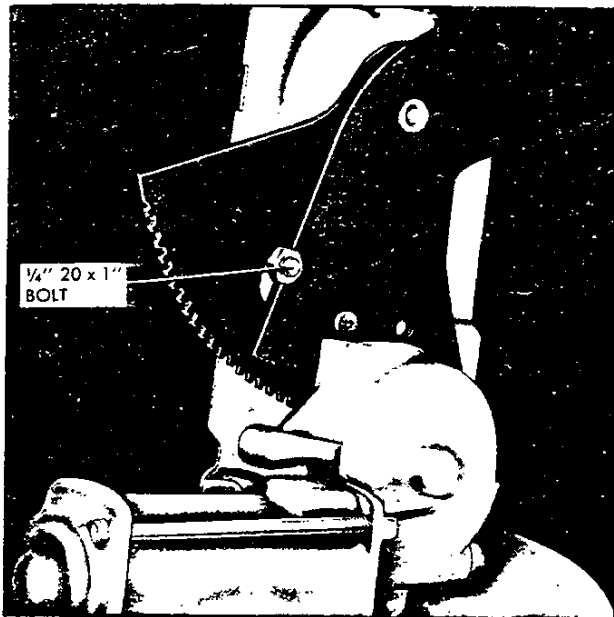

Fig. 35—Locking Arm in Place
**WARNING:** Do not attempt to remove the motor from the regulator until the following operations are performed. Arm is spring-loaded and should be locked in position before the motor is removed. Refer to Figure 35.